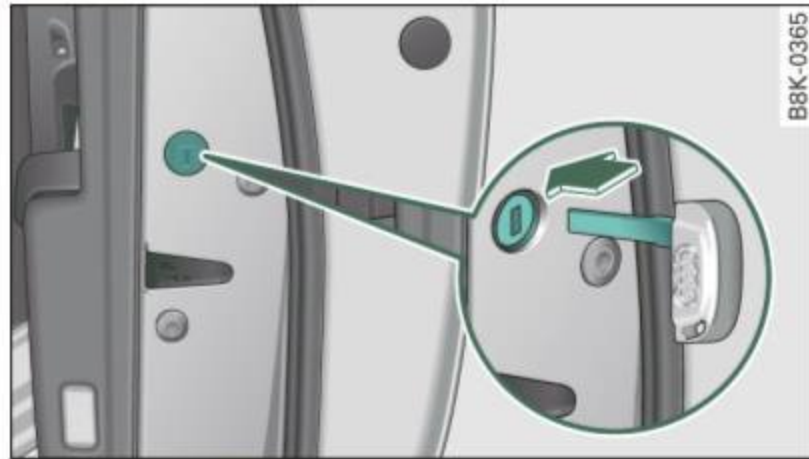

Fig. 38 Door: Emergency locking
- Pull the cover cap out of the opening ⇒ fig. 38.